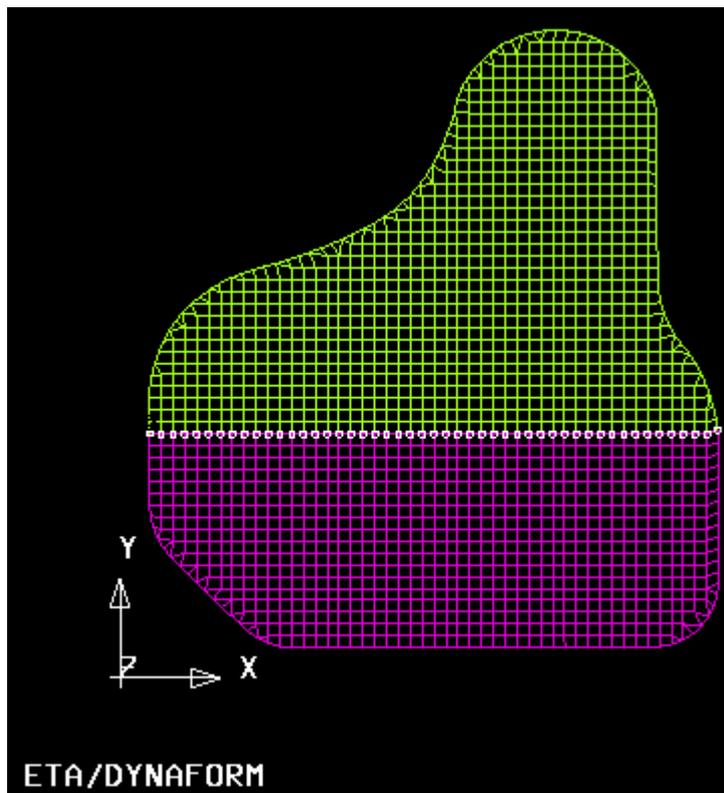

Figure 5.39 Selected nodes
3. Click **OK** button to complete the selection. The selected nodes are defined as welds illustrated in Figure 5.39.